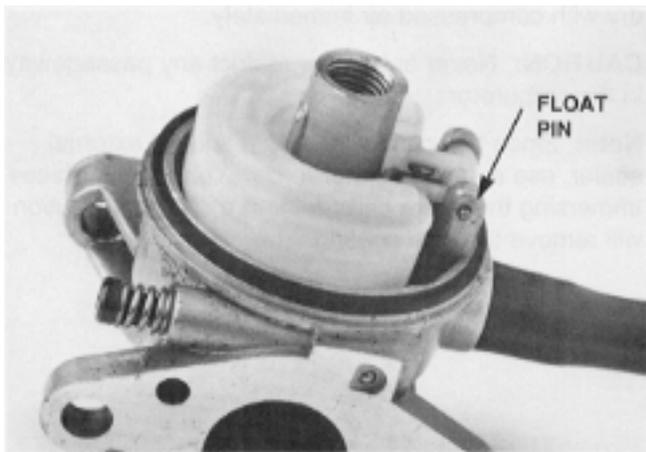

Figure 19
3. Place the inlet needle on the float and install it on carburetor. Push the float pin into the carburetor body through the float hinge (**Figure 19**).